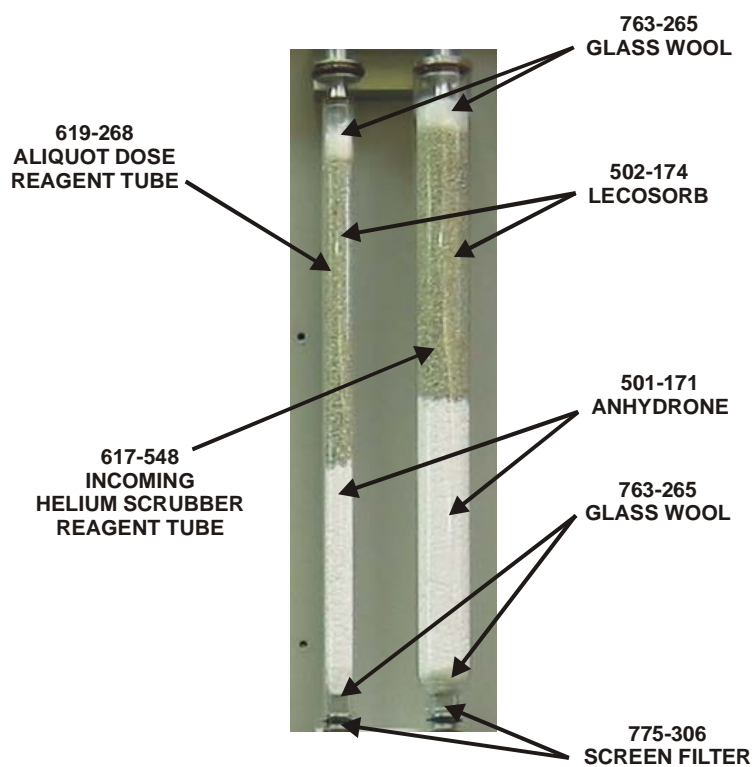

Figure 2-5
1. Insert a screen filter into the bottom of reagent tube. Position the o-ring towards the bottom and push the screen filter up into the tube $\frac{1}{4}$ -inch, Figure 2-5, page 2-12.